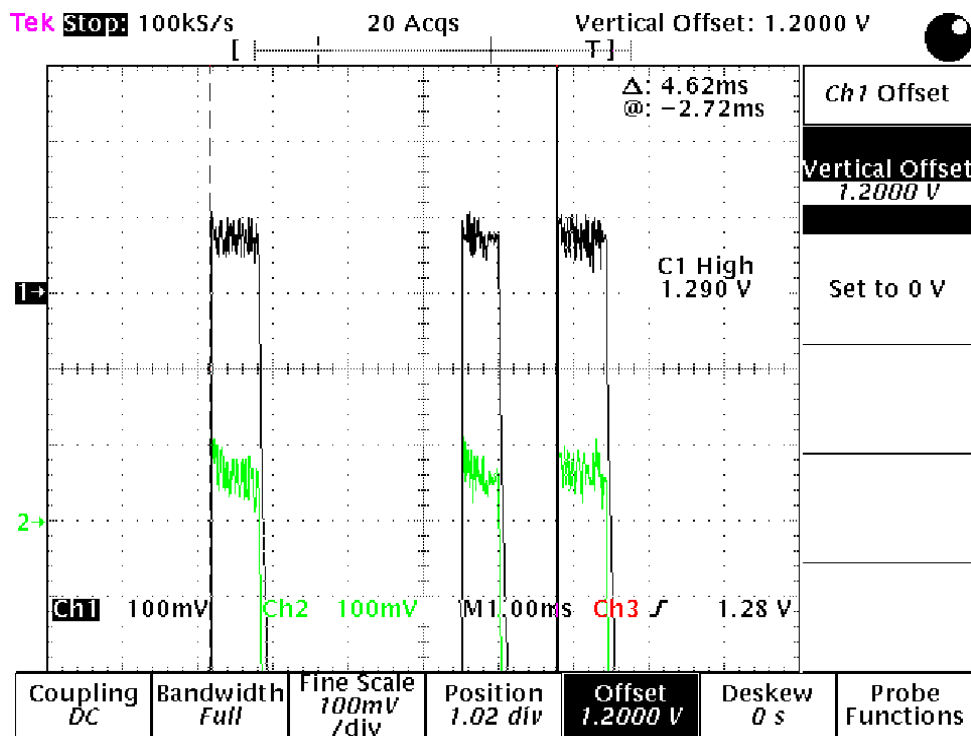

Figure 3-21. RX IQ Signal.
8. RX IP, IN, QP, QN (see Fig. 3-21)